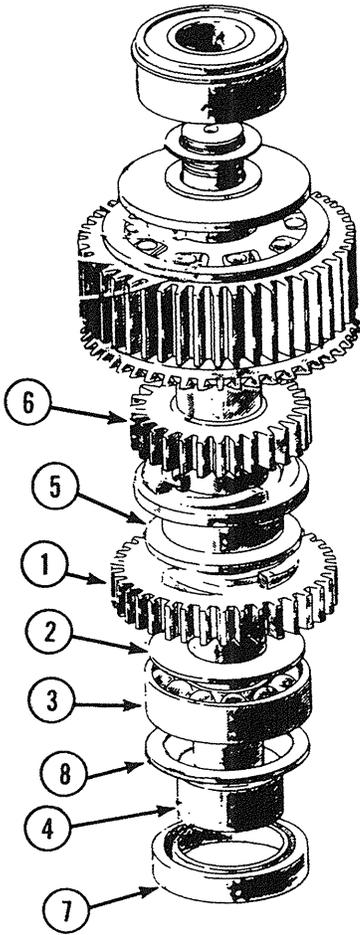

Fig. 3-25
- B. Install lower clutch gear (38t). Clutch teeth towards top of shaft (1, Fig. 3-25).
- C. Install lower planetary spacer with collar towards bearing (2, Fig. 3-25).
- D. Check ball bearing for roughness. If OK, place on shaft with shield toward planetary end and use arbor press to press on the shaft (3, Fig. 3-25).
- E. Check planetary spacer outer surface for roughness. This surface must be smooth. If rough replace. Press against inner race of ball bearing (4, Fig. 3-25). When replacing spacer make sure tapered end goes toward seal away from bearing.
- A. Install planetary shaft seal (7, Fig. 3-25). Be sure the seal lip is turned toward the bearing and the seal is flush with bottom of transmission case.
- B. Lay the hard rubber spacing washer (8, Fig. 3-25) on top of seal.
- S. Shim washers also control the contact of shifter sleeve (5, Fig. 3-25) with gears (1, Fig. 3-25) and (6, Fig. 3-25).